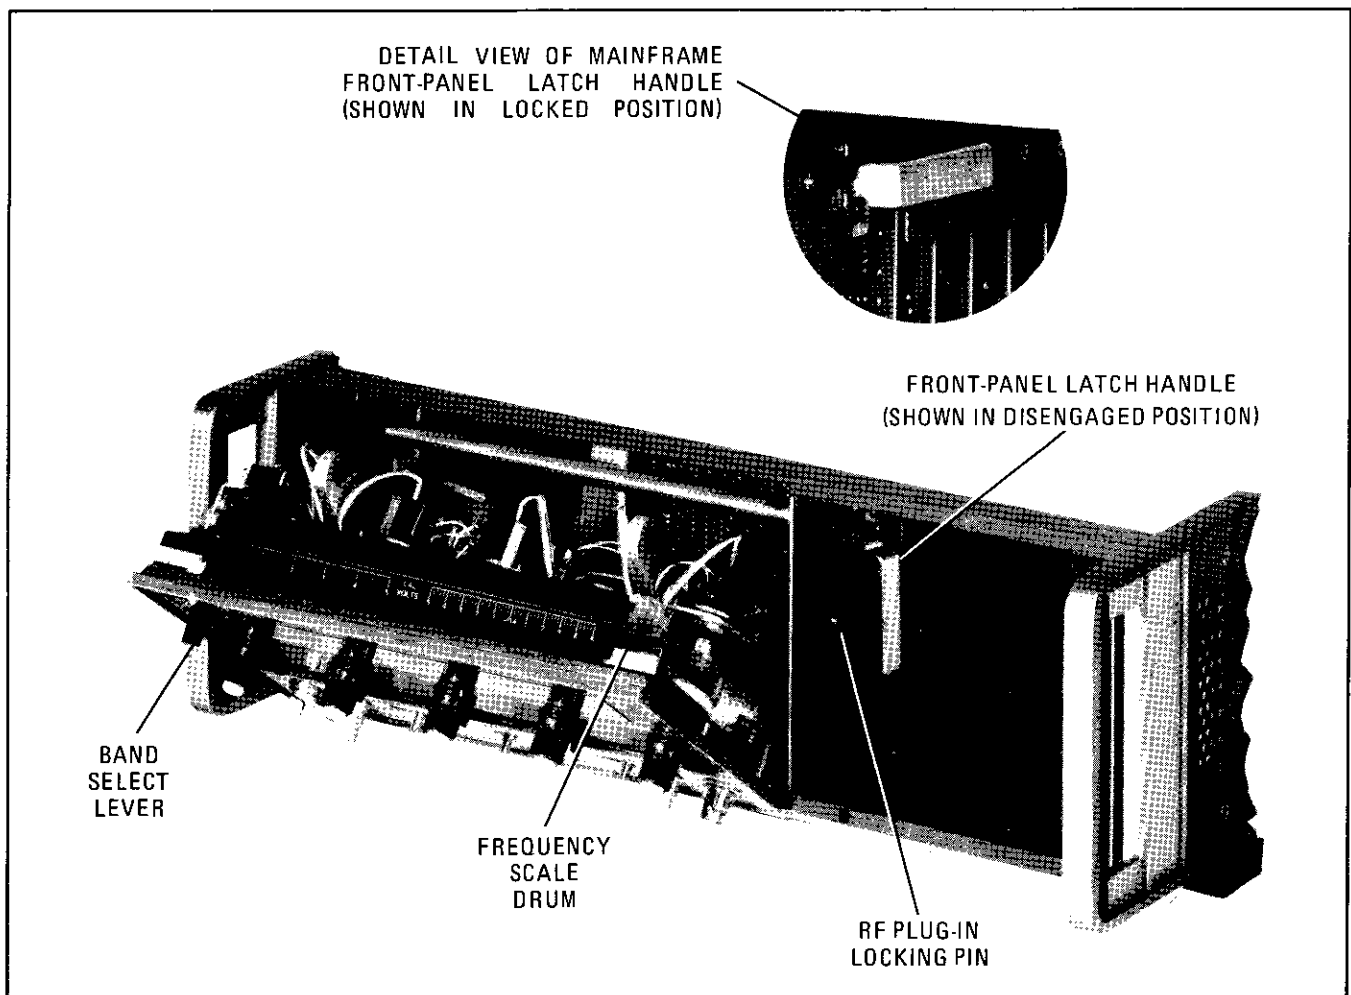

Figure 2-1. Installation of Frequency Scale and RF Plug-in
a. Disengage mainframe front-panel latch handle, shown in Figure 2-1, by pushing downward on handle while pushing inward lightly on top of front panel.
c. Depress mainframe front-panel BAND select lever, shown in Figure 2-1, to rotate frequency scale drum until desired scale position is accessible.
f. Return front panel to upright (closed) position, and, while pushing inward lightly on top of front panel, re-engage front-panel latch handle by pushing it upward to lock positions as shown in Figure 2-1, inset view.
c. Slide RF Plug-in into mainframe towards rear of compartment. RF Plug-in latch handle will engage a locking pin, shown in Figure 2-1, inside mainframe and exposed portion of latch handle will start to move downward.
b. When exposed portion of latch handle is in a position perpendicular to RF Plug-in front panel, it is disengaged from locking pin (Figure 2-1) and RF Plug-in may be removed by pulling forward on latch handle.